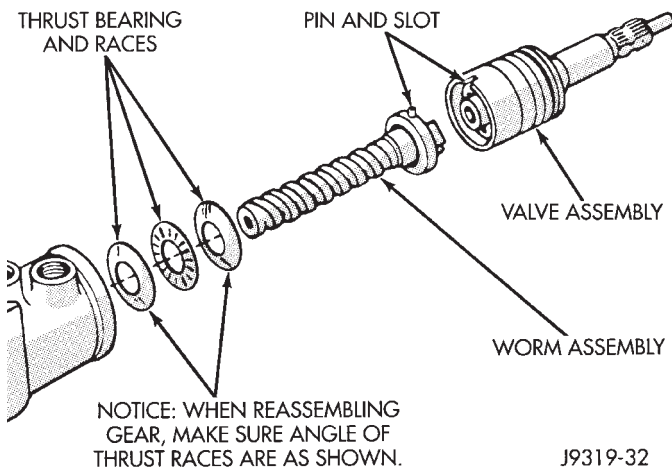

Fig. 24 Bearing, Worm and Valve Assembly
(2) Remove stub shaft and valve assembly (Fig. 24).